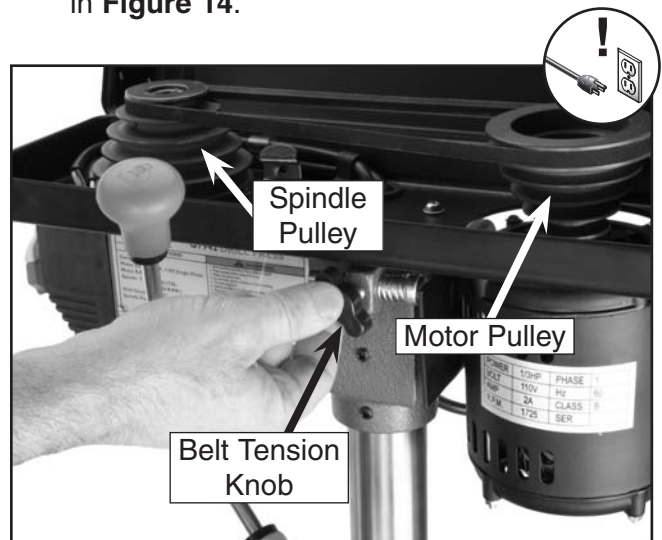

Figure 14. Loosening belt tension knob.
4. Turn the belt tension knob counterclockwise to loosen the motor tension spring, as shown in Figure 14.